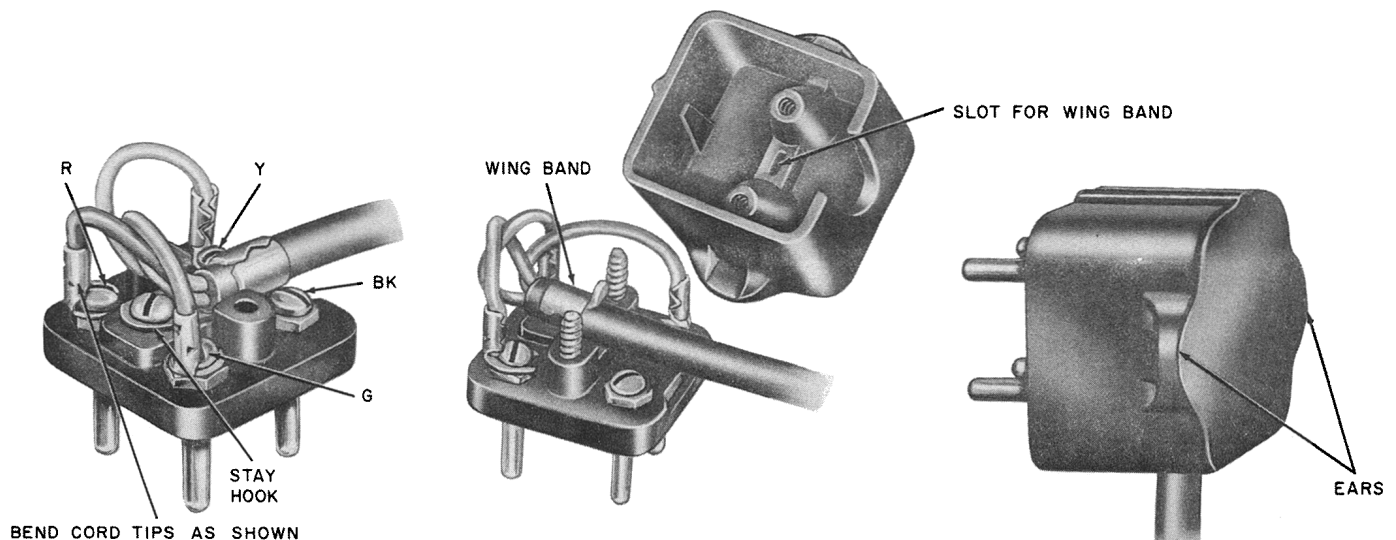

Fig. 32 — Terminating D3BP and D4BK Cords on 283B Plug
- (1) Make connections as indicated by color designations stamped adjacent to terminals (Fig. 32).
- (2) Bend cord tips up as shown in Fig. 32.
- (3) Place one edge of wingband in the larger (shallow drilled) of the two holes in the base.
- (4) Place cover so cord and wingband will seat properly in their slots.
- (5) Seat base of plug in its cover before tightening screws in order to prevent pinching of cord conductors.